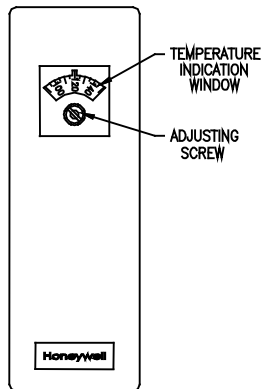

Figure 7 - Aquastat Control
2. For the most energy efficient operation, adjust the aquastat for the minimum water temperature necessary to meet domestic hot water needs. Refer to Figure 7. Use a small flat screwdriver to rotate the temperature dial through the hole directly below the temperature indication window. The temperature setting is aligned with the notch in this window. **IT IS NOT NECESSARY TO REMOVE THE COVER TO ADJUST THE TEMPERATURE SETTING. THE AQUASTAT COVER SHOULD NEVER BE REMOVED WITHOUT ELECTRICITY BEING FIRST DISCONNECTED.**